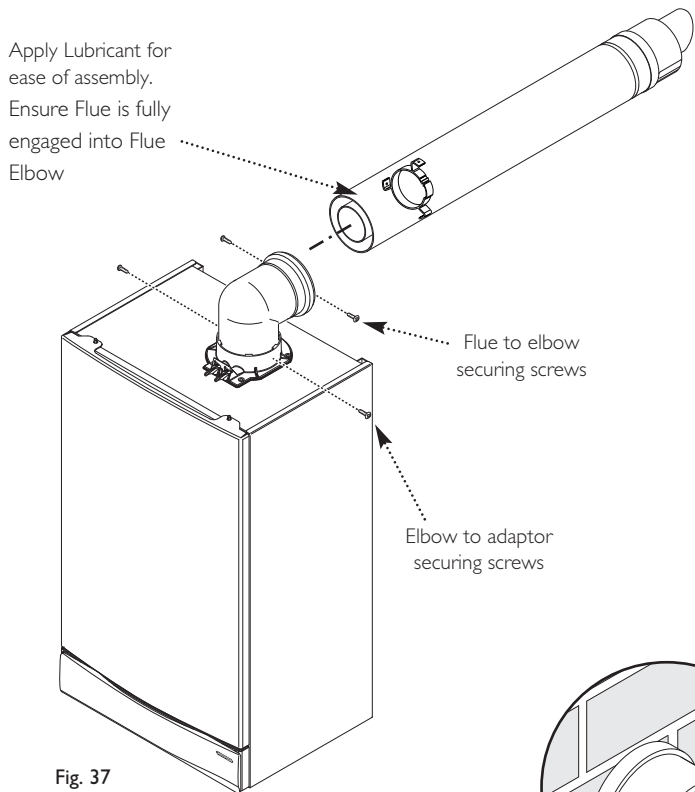
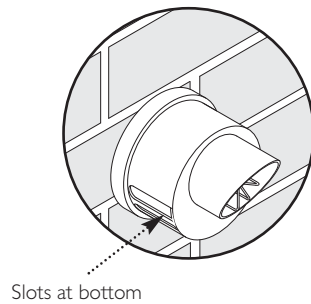

Fig. 37
Fig. 38
9. Draw the flue back through the wall and engage it in the elbow. It may be necessary to use soap solution or similar to ease assembly of the elbow adaptor and flue (Fig. 37).
10. Ensure that the terminal is positioned with the slots to the bottom (Fig. 38). Secure the flue to the elbow with the screws supplied (Fig. 37).
11. Secure the elbow flue to the boiler adaptor with the screws supplied in the boiler fittings pack (Fig. 37).